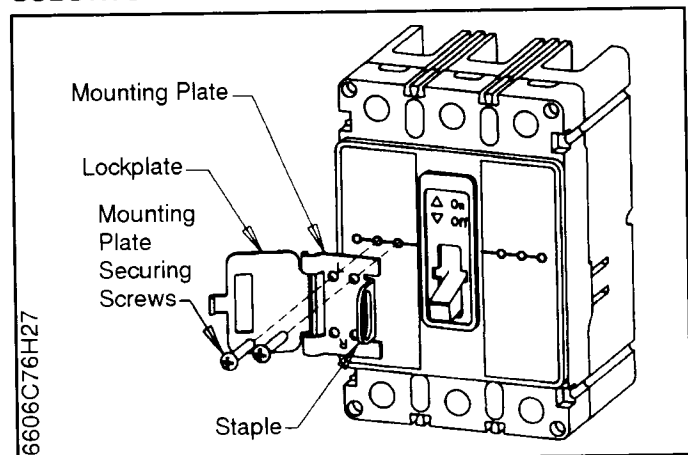

Fig. 2-2 Padlockable Handle Lock Hasp Installation
- 2-3. For right-hand mounting, letter R on mounting plate must be adjacent to the circuit breaker handle when the handle is in the ON position. (See Fig. 2-2.) For left-hand mounting, letter L must be adjacent to the circuit breaker handle when in the ON position.
- 2-4. Position mounting plate on cover. Line up mounting holes. (See Fig. 2-2.)